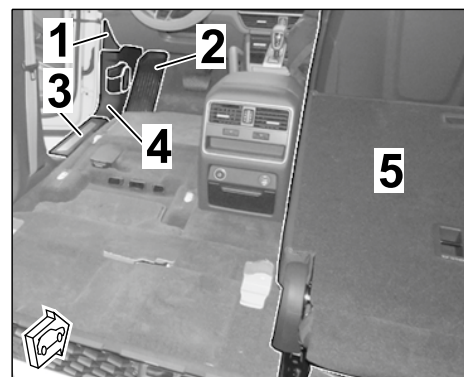

Figure 10
- 1.5 Expose the A-pillar area (left side) (⇒ *Figure 10*)